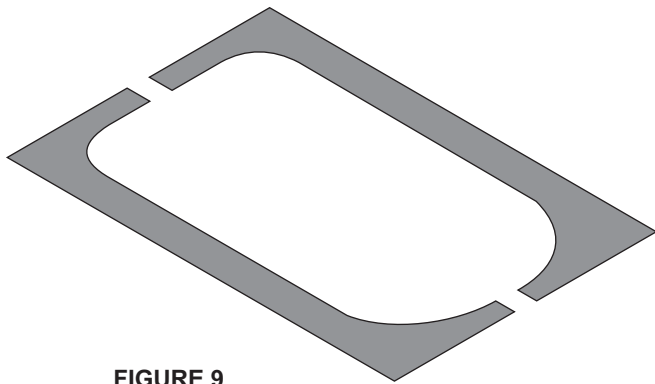

FIGURE 9
- Cut the board into two halves as shown in figure 9.